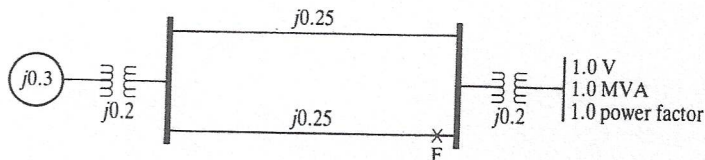

Fig. 10-10.
- 10.33** The per-unit reactances for a given system are shown in Fig. 10-10. Unit power is being delivered to the receiving-end bus of the system at unity power factor and unit voltage. A three-phase short circuit occurs at F, the receiving end of one of the lines. Find the critical clearing angle.